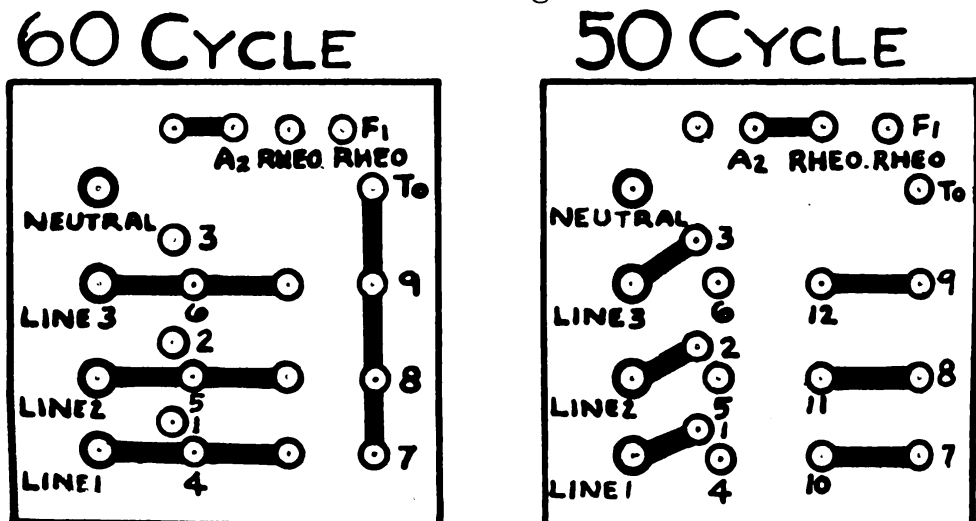

Figure 307. Arrangements of Connection Links.
1. Separate the field and armature circuits by disconnecting the leads from the exciter brush holders and removing the connection link from the rheostat circuit terminals inside the alternator panel box. This link is located at the extreme top and is the shortest of the links. See Figure 307.